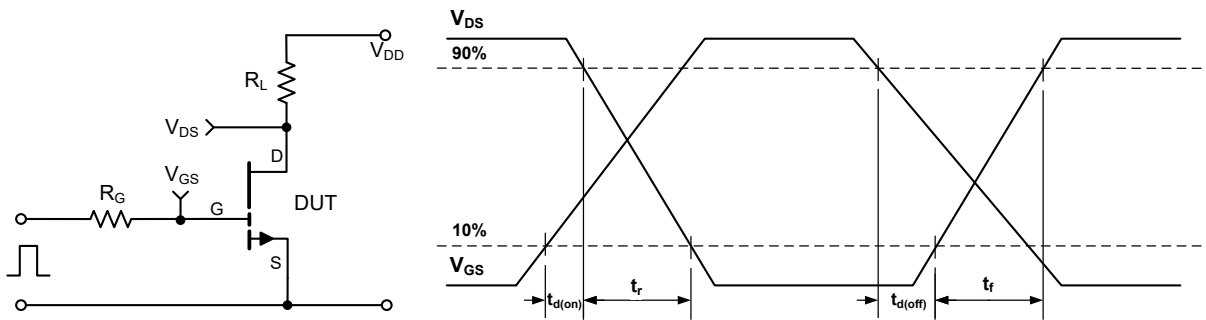

Figure 12: GS66508B switching time test circuit and waveforms
(5) See Figure 12 for timing test circuit diagram and definition waveforms
(6) L_p = parasitic inductance